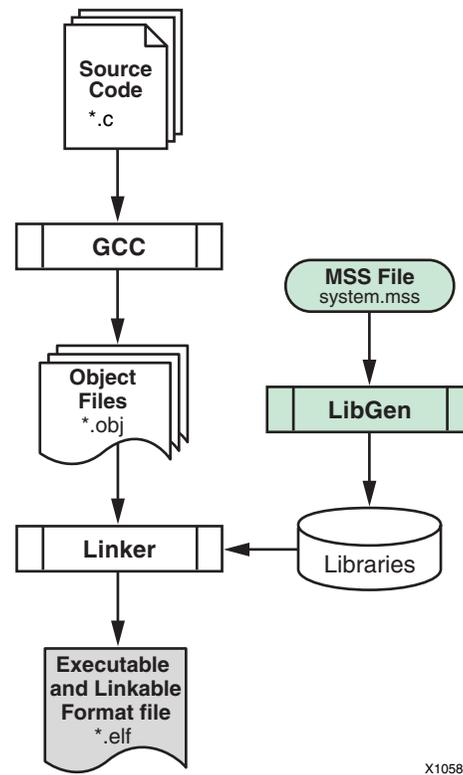

Figure 6-1: Elements and Stages of ELF File Generation
2. Next you must generate the BSP. Click **Software > Generate Libraries and BSPs**. When you do this, XPS invokes the library generator tool, Libgen. At this point, you might want to take a another look at Figure 6-1 to see where you are in the process.